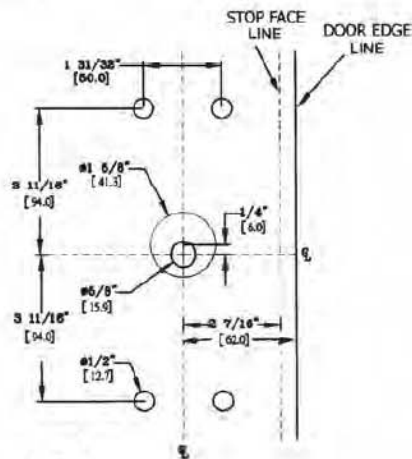

Fig. 6
3. Mark and drill dia. 1/2" holes for four mounting posts as shown on template. (See Fig. 6.)